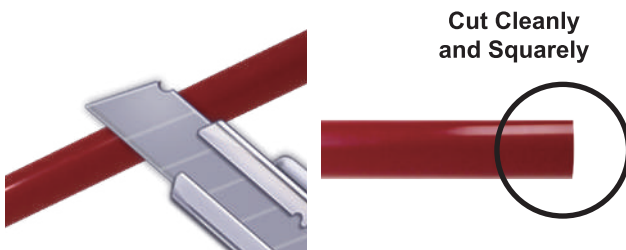

Figure 2
**NOTE:** If the tubing is too long, cut it to a suitable length with a sharp utility knife or scissors. Cut the tubing squarely and cleanly (Figure 2). Make sure the tubing is fully inserted (about 0.8”).